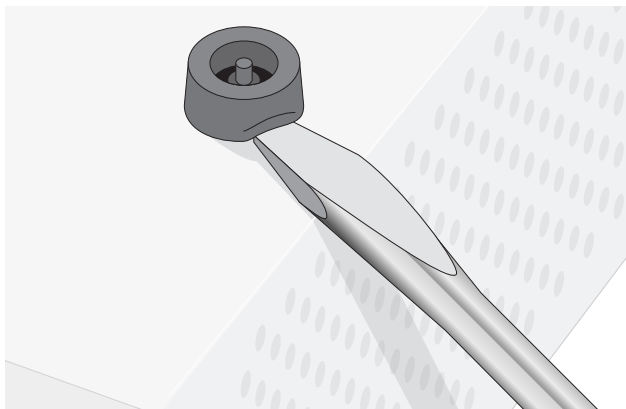

Figure 26. Removing the Feet
2. Using a flat-head screwdriver, remove the snap-on plastic feet from the bottom of the power supply, as shown in Figure 26.